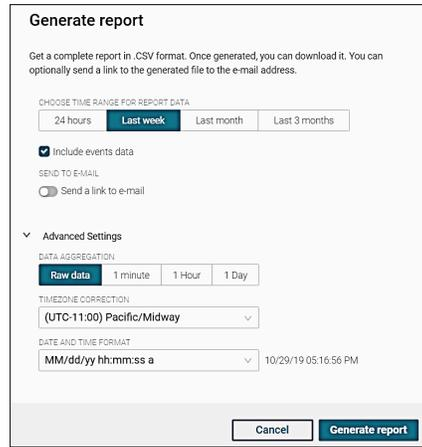

Figure 75. Advanced Setting Option
6. If “> Advanced settings” option is selected, timestamp format can be selected, as well as time zone correction and if data aggregation is desired. See **Figure 75**.